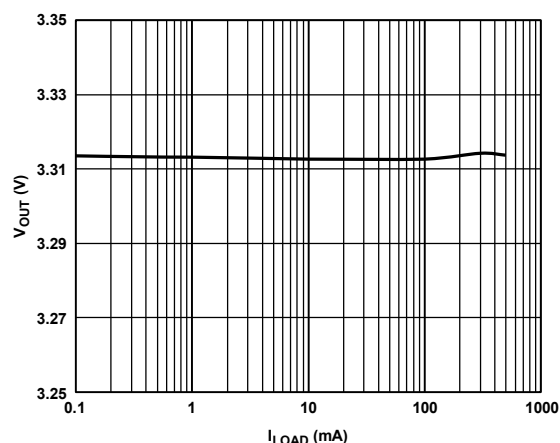

Figure 6. Output Voltage ( $V_{OUT}$ ) vs. Load Current ( $I_{LOAD}$ ),  $V_{OUT} = 3.3V$
- 1 Based on an end-point calculation using 1mA and 500mA loads. See Figure 6 for typical load regulation performance for loads less than 1mA.